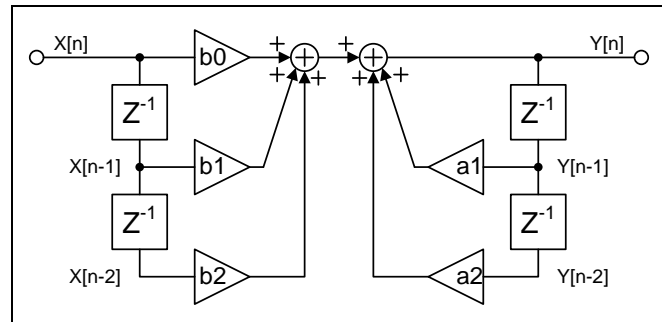

Figure 21. 2nd Order IIR Filter
13-Band EQ and 3-Band Tone(EQ) filters are connected in order from high frequency f_0 or f_c to low frequency f_0 or f_c . Each band is configured by 2nd order IIR filter. (Refer to Figure 21.)
IIR A and IIR B are configured by 2nd order IIR filter. (Refer to Figure 21.)